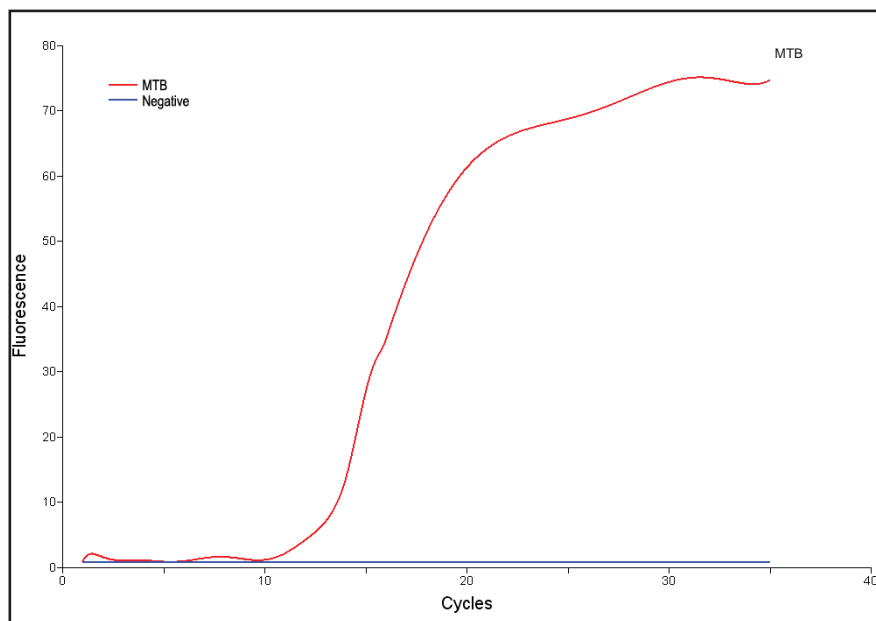

Figure 1. Real-time PCR result for *M. tuberculosis* (MTB).
9. Example of real-time graph is depicted in Figure 1